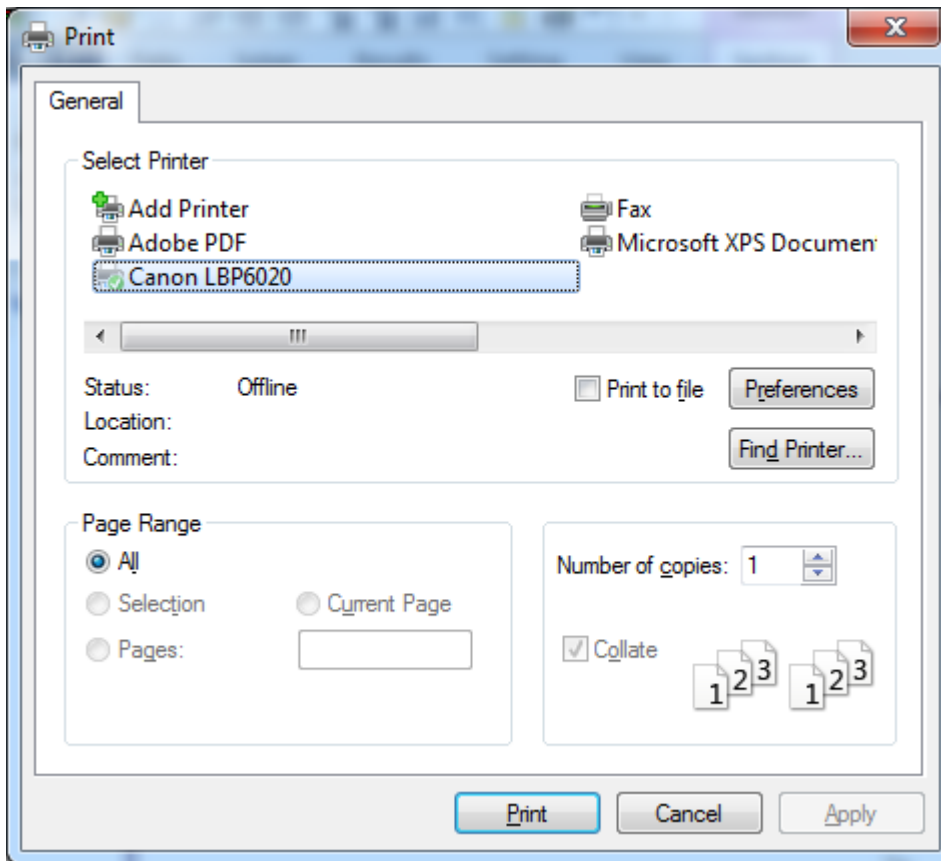

Figure 1.41 "Print" dialog box
- Choose "Print" command from "Print" menu in the current drawing Window. The following "Print" dialog box in Figure 1.41 appears